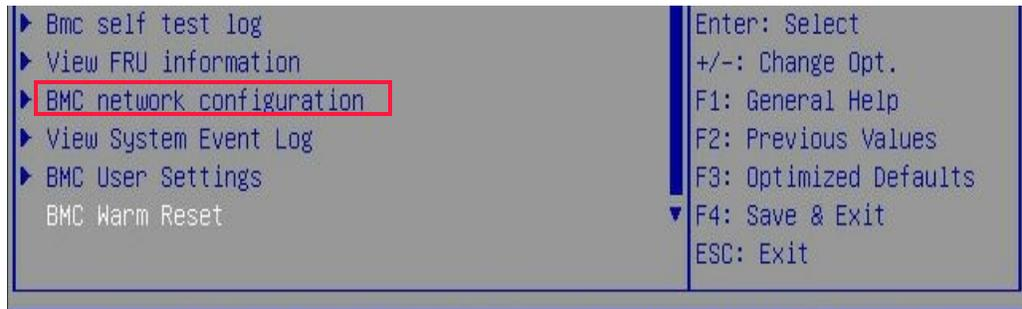

Figure 6.4 Server Mgmt tab
- Press the right arrow key to navigate to the **Server Mgmt** tab, which displays as shown in Figure 6.4 that follows.